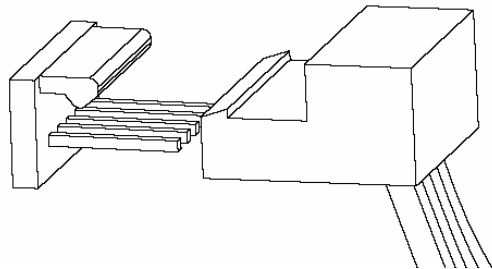

Fig. 5
17. The new circuit will have a wire harness/potentiometer already connected. Should you need to reconnect it for any reason, be aware that the clip has a polarity that is important to observe. The correct connection orientation is shown in Fig. 5 below. **Each circuit is supplied with its own wire harness - the wire harness must only be used with the circuit it is supplied with.**